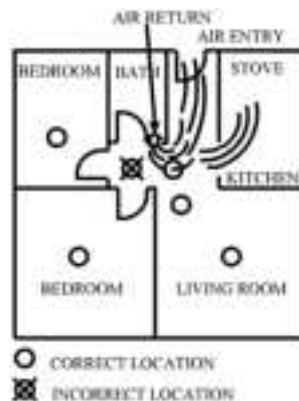

Figure 6: RECOMMENDED SMOKE DETECTOR LOCATIONS TO AVOID AIR STREAMS WITH COMBUSTION PARTICLES
- When air streams passing by kitchens, the way how a detector can sense combustion particles in normal air-flow paths is graphically shown in Figure 6, which indicates the correct and incorrect smoke detector locations concerning this problem.